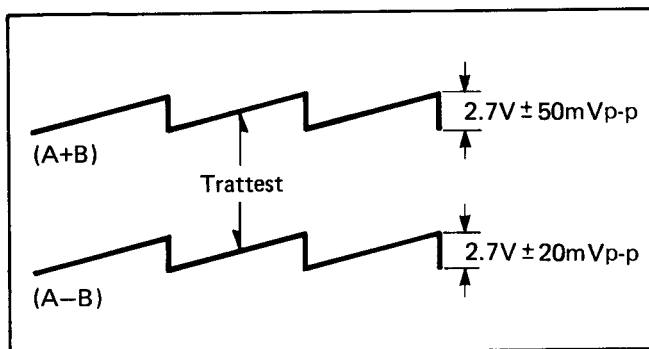

Fig. 7 A+B, A-B signal waveform
4. Connect a jumper between pin 11 of HIC6552 and ground (pin 16 of HIC6552), trigger the oscilloscope with pin 10 of HIC6552 (SZ), connect the oscilloscope with pin 32 of HIC6552 (A+B signal) and pin 9 of HIC6552 (A-B signal) and observe the waveform.
5. Then, adjust VR5102 (A+B signal offset adjustment) so that the waveform level is  $2.7V \pm 50mVp-p$ , adjust VR5103 (A-B signal offset adjustment) so that the waveform level is  $2.7V \pm 20mVp-p$  as shown in Fig. 7.